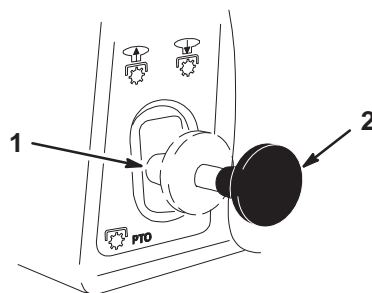

Figure 20
- Pull the power take off (PTO) to the **on** position (Fig. 20).
1. Push the power take off (PTO) to the **off** position (Fig. 20).